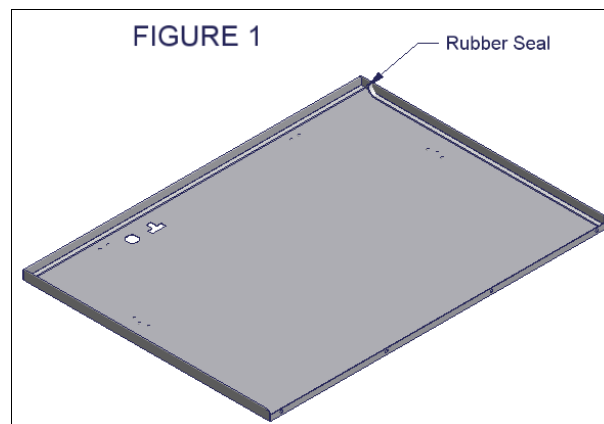

FIGURE 2
2. Install the (2) #22 mounting brackets A and (2) #20 mounting bracket B using (8) 5/16-18 x 1" Grade 8 bolts #19.3, (8) 5/16 Lock-Nuts #19.1, and (16) USS Washers #19.2 (Wide OD). Leave them loose enough so the overall bracket width can be adjusted by sliding them. (See Figure 2)
3. Assemble the fairing by fastening the #24 Left fairing bracket and #23 Right Fairing bracket to #18 Fairing using (4) 5/16-18 x 1" Grade 5 bolts #19.6 (Silver color), (4) 5/16 Lock-Nuts #19.1, and (8) 5/16 USS Washers #19.2 (Wide OD). The fairing must be mounted to the side of the box with the lid hinge; NOT the side where the lid opens or the box and lid may be damaged when operating the vehicle. (See Figure 2)
4. Fasten the Fairing assembly to the mounting brackets A and B previously mounted on the box using (4) 5/16-18 x 1" Grade 8 bolts #19.3, (4) 5/16 Lock-Nuts #19.1, and (8) 5/16 USS Washers #19.2 (Wide OD). Leave them loose enough so the fairing assembly can be adjusted side to side by sliding it. (See Figure 2)
7. Tighten all the hardware previously left loose. This includes all the hardware fastening the mounting bracket A and B to the box and the hardware fastening the fairing assembly to the mounting brackets A and B. (See Figure 2 and 3)